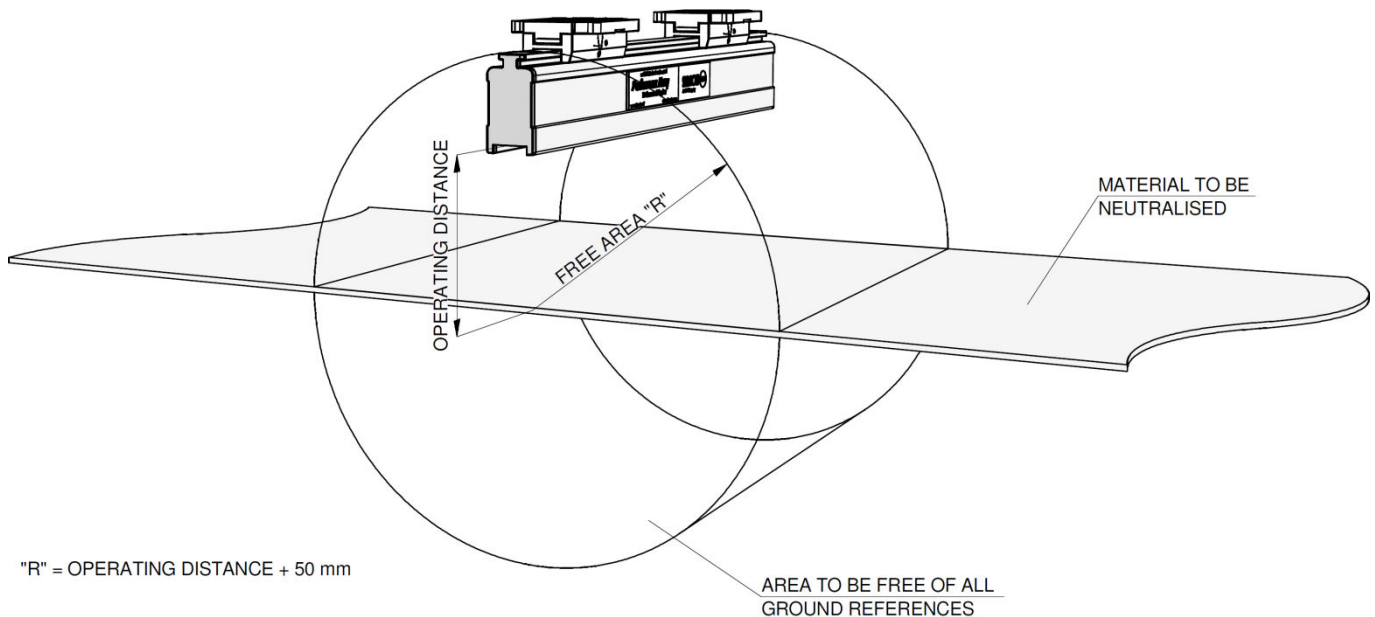

Figure 3: Optimal position EasION IQ 4.0
- **For optimum results, the anti-static bar must be fitted as per Figure 3.**